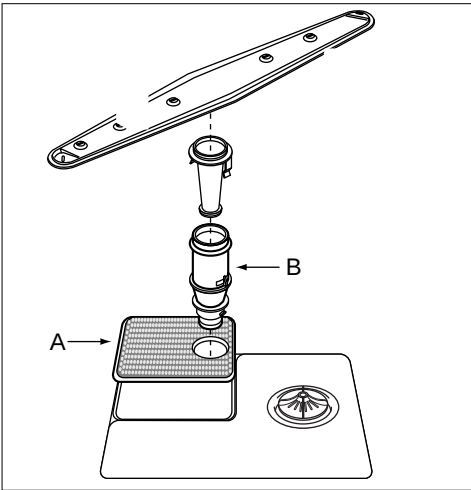

fig. 11
- Take out the lower spray arm by pulling it vertically upwards (see fig. 11). Rinse the spray arms clean under the tap.